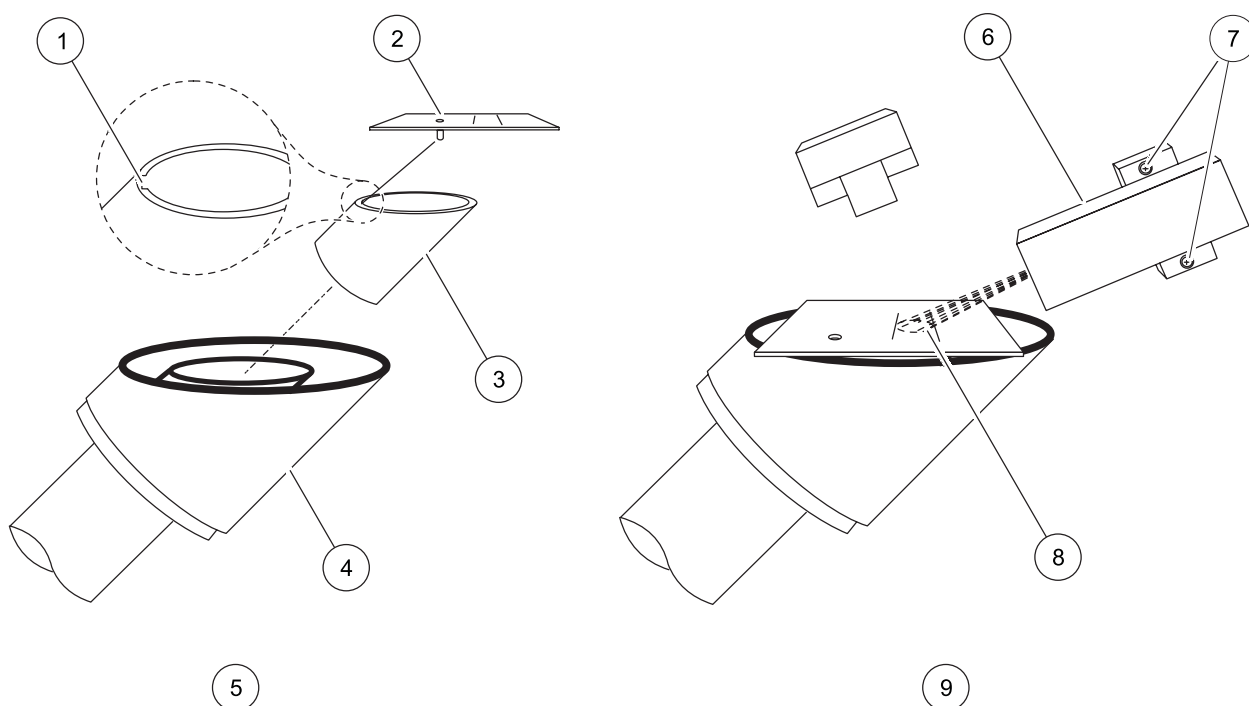

Figure 17 Alignment details
- c. Place the alignment template on top of the calibration cylinder with the guide pin down and against the flat notch on the inside of the cylinder (Figure 17). The back edge of the template should be against the sample unit back plate.
- d. Check the position of the lamp image on the alignment template surface. It should fall on the target area so the center of the beam is centered between the lines (Figure 17).